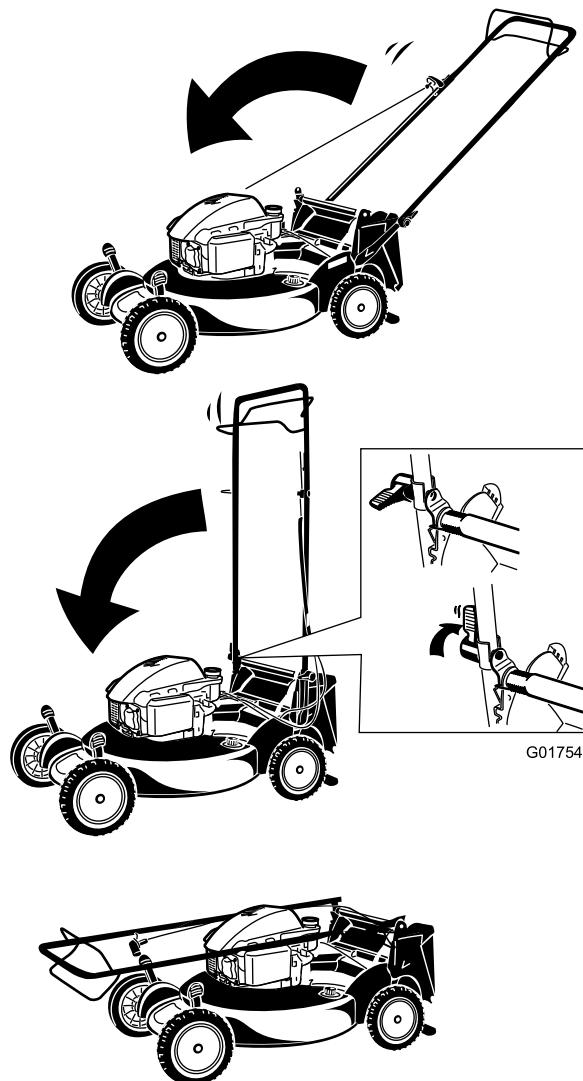

Figure 31
1. Rotate the handle forward (Figure 31).